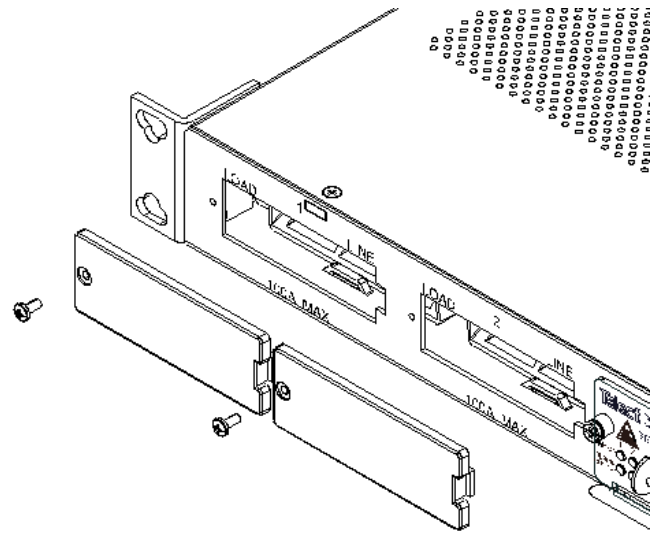

Fig. 2: Removing blank covers from model 009-7001-0104B
1. As shown in Fig. 2, remove the blank cover(s) over the intended fuse holder position(s). The unit can operate with one, two, three or four fuse positions occupied.